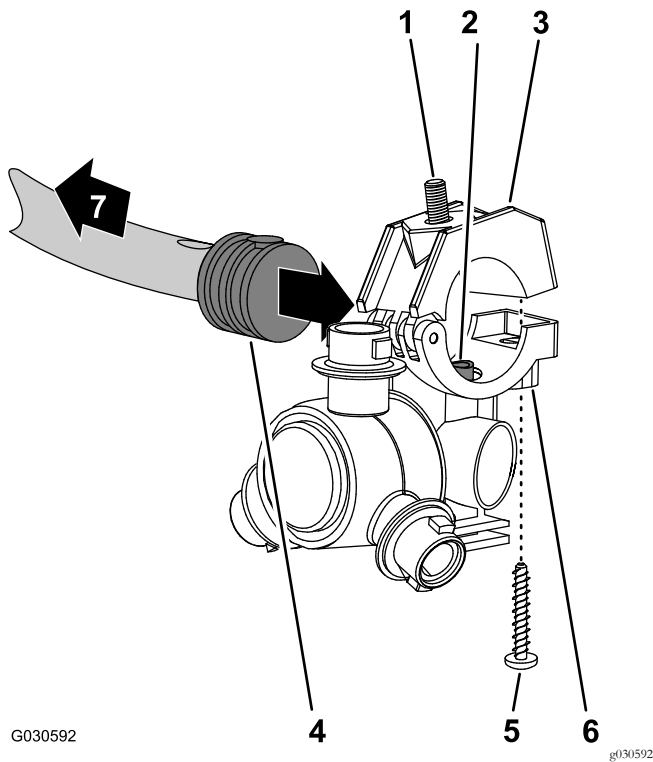

Figure 129
1. Align the transfer tube in the saddle of a sprayer nozzle (Figure 129) with the hole in the side of the single barbed-hose shank (1/2 inch).
(Figure 129) with the stainless steel screw (#12 x 1-1/4 inches); torque the stainless steel screw to 14 to 18 N·m (20 to 25 in-lb).